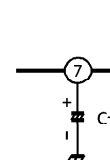

Fig. 3 Smoothing function
The Pin⑦ is the smoothing terminal for reducing the pop noise produced at F/R switchover by using the external capacitor CT. (Fig.3)